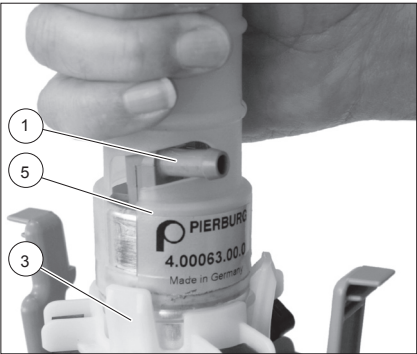
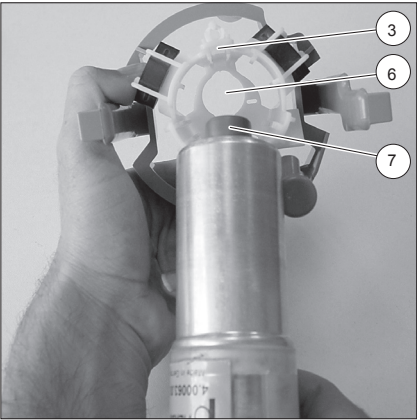

Abb. 2/ Fig. 2/ Рис. 2
Abb. 3/ Fig. 3/ Рис. 3
- Place tool (5) (Pierburg No. 4.00063.00.0) with its recess on the angled delivery pipe joint (1) of the pump.
- Firmly press the positioned tool (5) on the pump until the tool is in contact with circumferential bead of the pump. In this process, the tool (5) expands the fixture of the bushing (3).
- Twist the tool to the side so that the angled delivery pipe joint of the pump engages in the recess on the tool (see Fig. 2).
- The pump can then be extracted from the bushing **using the tool** (5).
- Insert the **new pump** with the angled delivery pipe joint (1) of the pump in the recess of the tool (5) (Pierburg No. 4.00063.00.0).
- The pump must now be inserted into the bushing (3) with the tool that the induction pipe (7) is seated in the appropriate opening (6) at the bottom of the bushing (3) (see Fig. 3)
- **Use the tool** (5) to firmly press the pump into the bushing.
- Position the suction filter (4) i such a way that the stud (8) is seated in the groove (9).
- ☞** When pressing on, use a lint-free cloth to protect the suction filter (4) against damage.
- Once the pump is correctly seated in the bushing, pull off the tool (5) from the pump.
- Slip the fuel hose on the hose connection (1) and secure with a hose clamp. Take care that the fuel hose is not damaged in the process.
- Connect electrical contacts (2). These contacts are reverse-polarity protected. Take care that no dirt enters the fuel tank.